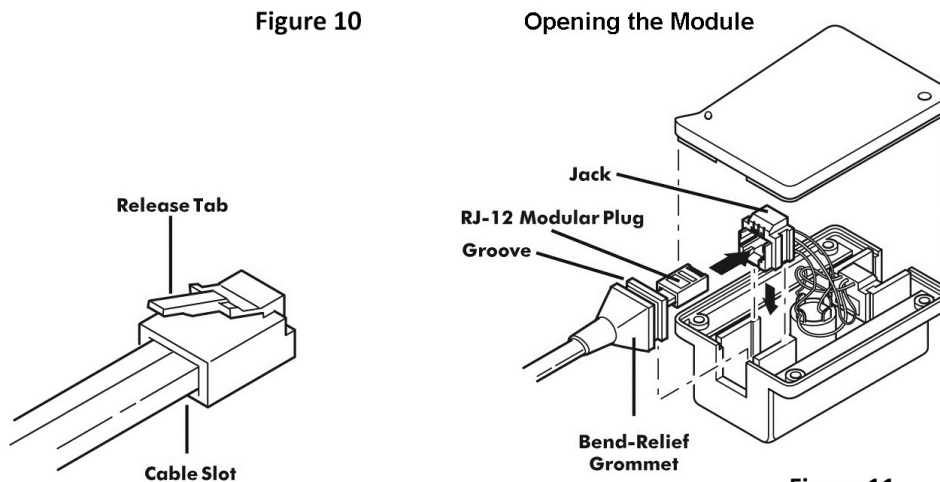

Figure 11
2. Lift the modular jack slightly out of the HM-10 and insert the RJ-12 Modular Plug into the jack in the HM-10 as shown in Figure 11.
1. Insert the Bend-Relief Grommet into the HM-10 so the groove in the grommet is over the side case of the HM-10 (Figure11).